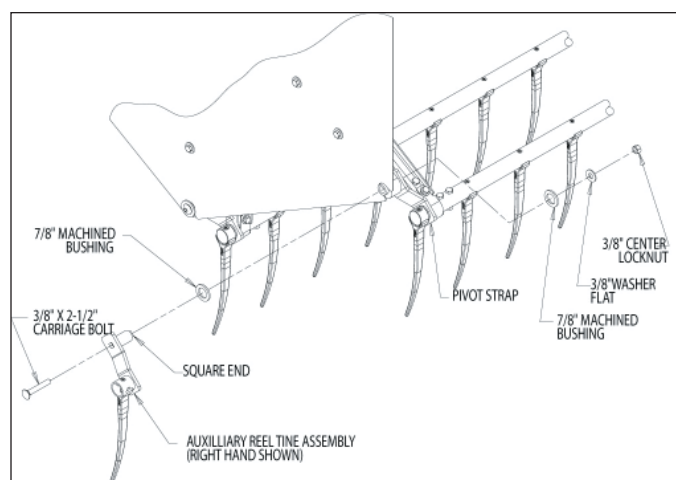

Figure 42, Assemble auxiliary reel tine kit
2. Simultaneously assemble the auxiliary reel tine assembly with two steel machine bushings as shown in Figure 42.